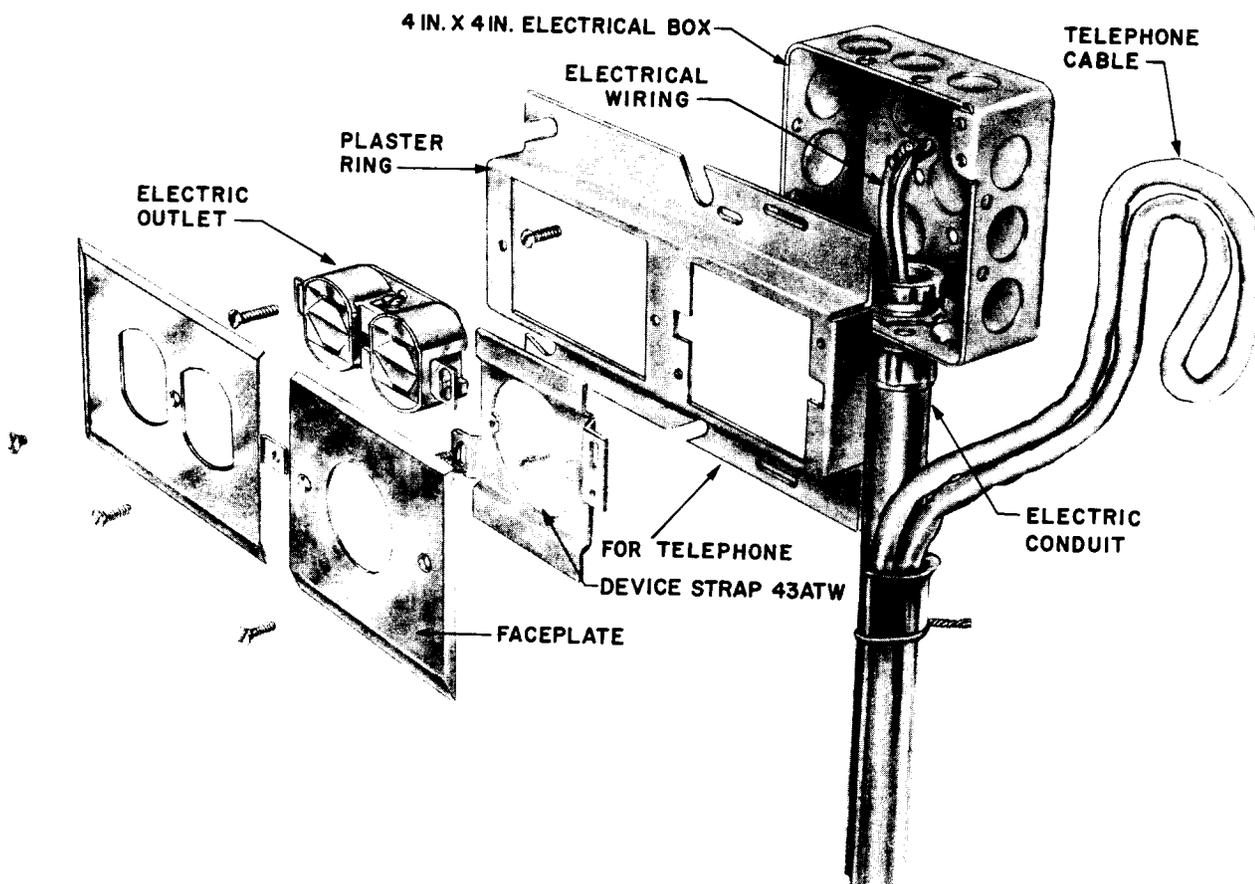

Fig. 4 - Combined Outlet, Single 4-inch Electrical Outlet Box
3.02 Single 4-inch electrical box: This type of installation is used for hollow wall construction when no outlet box is required for telephone facilities. A plaster ring, without extension, of the proper thickness is mounted to the electrical outlet box. (See Fig. 4.)